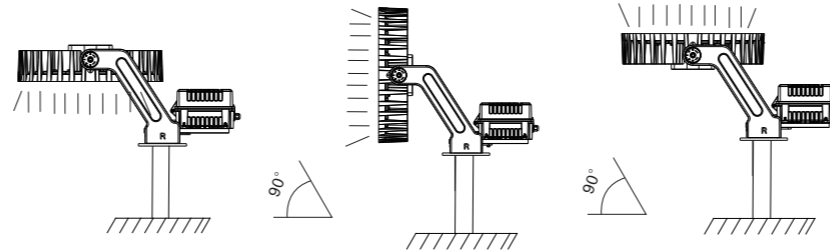

Figure 13
3. According to the need, adjust the angle of the fixture. (Figure 13);